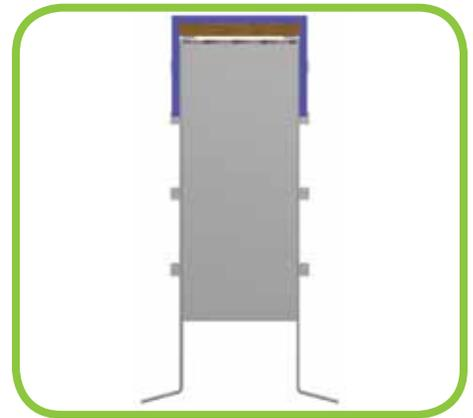

Figure 6
4. Before Duraslot pipe is braced in the trench, the slot opening should be covered to prevent the concrete or asphalt from entering the system. An accepted way to do so is to run a piece of $\frac{1}{4}$ "- $\frac{1}{2}$ " (6-13 mm) plywood over the grates, then use 2" (50 mm) duct tape to hold it over the grate. (Figure 6) This will help prevent clogging the grate and help achieve the recess for Duraslot pipe.